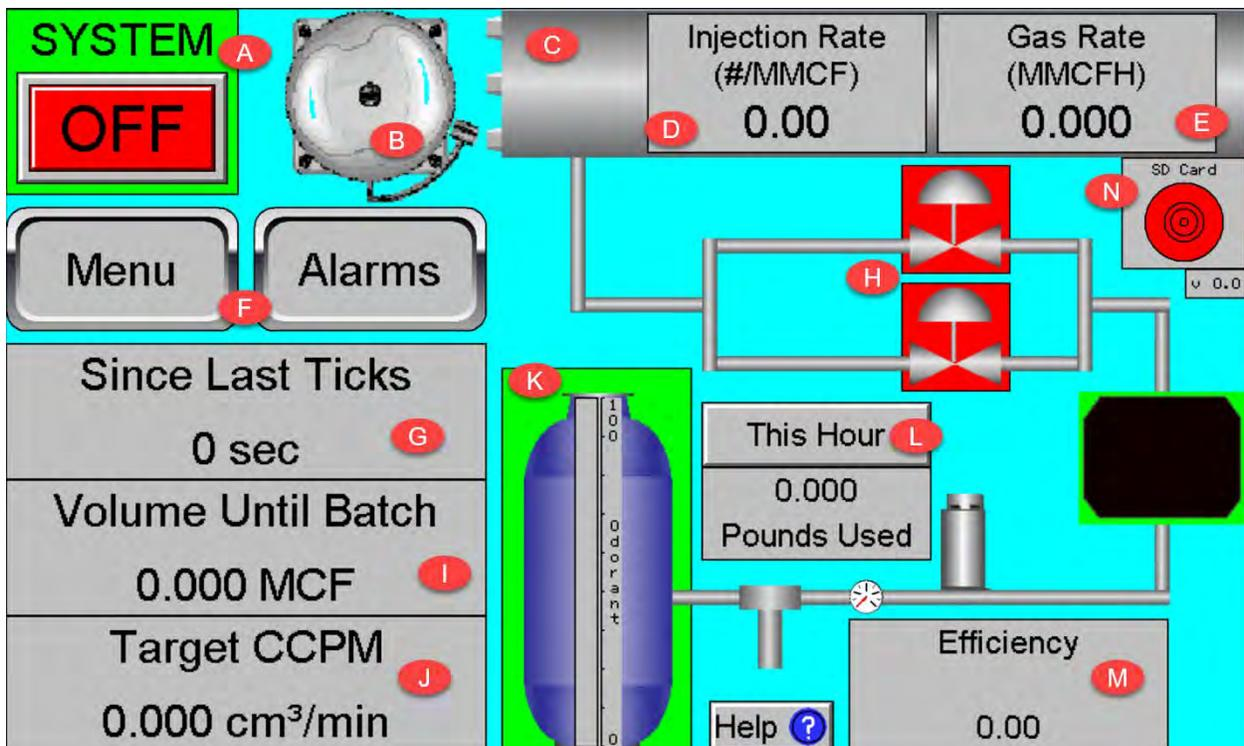

Figure 2: Home Screen
See Figure 2 for the GPL 5000 controller home screen display. The graphics provide real-time updates and important data regarding the unit's operation and performance. Refer to the corresponding letters in this outline within Figure 2 for more info:
- C. A long gray pipe represents the injection point, displaying two variables within a pipe. These variables change depending on the fluid type (gas/liquid). The variables displayed in Figure 2 are for a gas operation.
- H. An easy way to determine if the GPL 5000 is batching is by looking at the two valve symbols underneath the “Injection Rate” and “Gas Rate” boxes. In Figure 2, a solid red background shows that neither solenoid has actuated and the unit is not batching. The unit is in batch if either of these solenoids’ backgrounds is green. If the solenoids are green, but the “Since Last Ticks” do not reset to zero, turn the system off and continue to the troubleshooting section below.
Relating the three variable values to the Target CCPM on the main screen (Figure 2) can help troubleshoot alarms and monitor how well the odorizer is set up for the application.